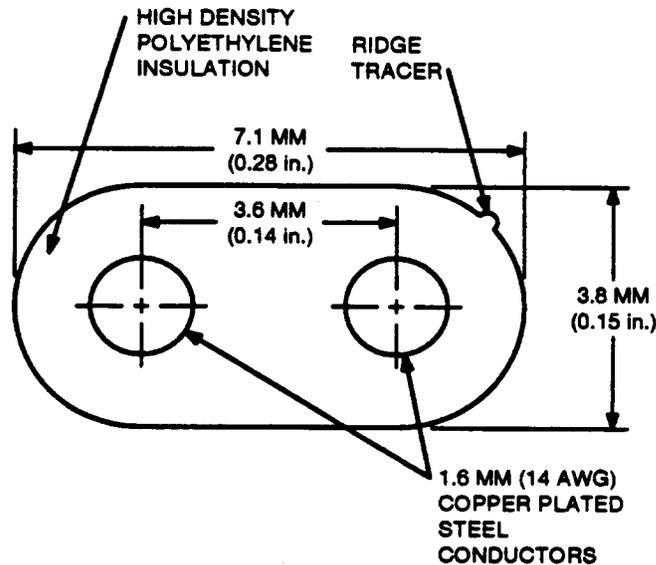

Figure 1. C Rural Wire—Cross-Section — Typical Dimensions
- 2.01** The C rural wire (Figure 1) is a self-supporting insulated paired wire for use in aerial distribution of telephone circuits. It consists of two parallel 1.6 mm (14 gauge), 30 percent conductivity, extra high strength copper-plated steel conductors insulated with high density polyethylene. A single ridge is molded in the insulation to provide conductor identification. The wire weighs approximately 15.88 kilograms (35 pounds) per 304.9 meters (1000 feet) and has a breaking strength of 1100 pounds. It can be used in spans up to 76.23, 167.70, and 182.94 meters (350, 550, and 600 feet) in the heavy, medium, and light storm loading areas, respectively.